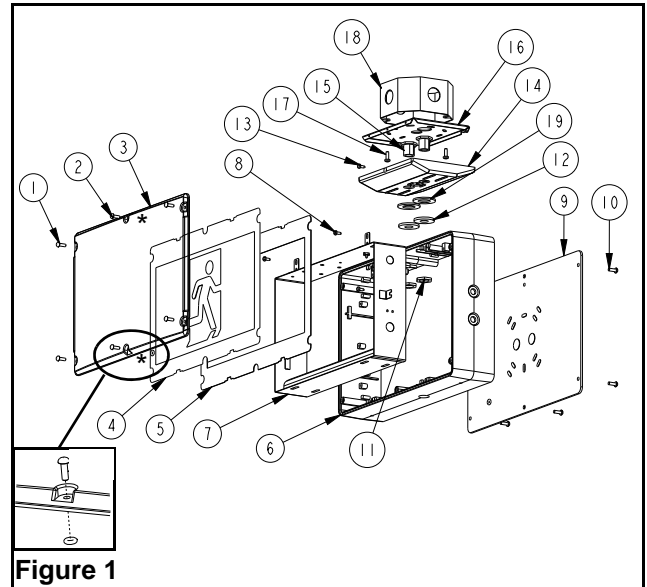
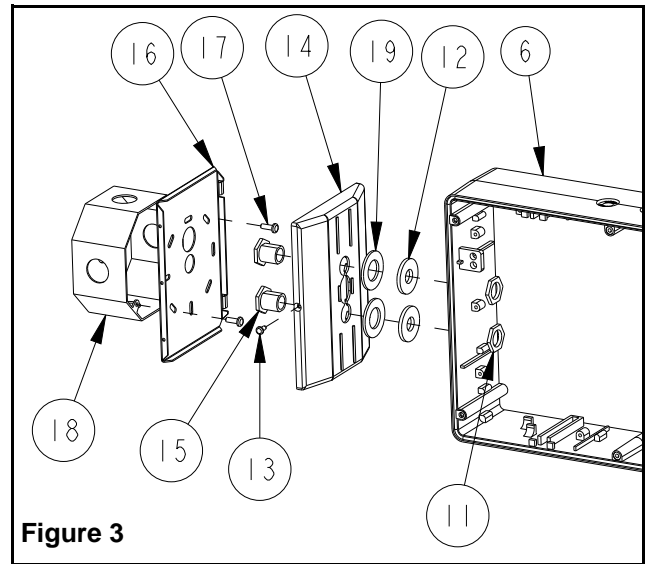

Figure 1
Figure 3
- e. Make sure the securement screw is accessible (see Figure 1 part # 13). Use existing screws in junction box to secure canopy backplate to the junction box.
- h. Determine which holes in the frame will be used for mounting (see Figure 1 & Figure 3). Support frame with two blocks of wood, maximum one inch apart. Strike knockouts with a hammer and screwdriver. Clear holes of burrs to allow proper assembly of nipple/wire assembly.
- i. Secure canopy to the frame by threading the provided nipple/wire assembly through the canopy and frame. Make sure the gasket washers are between the canopy and frame, and that the locknuts are inside the unit (see Figure 3).